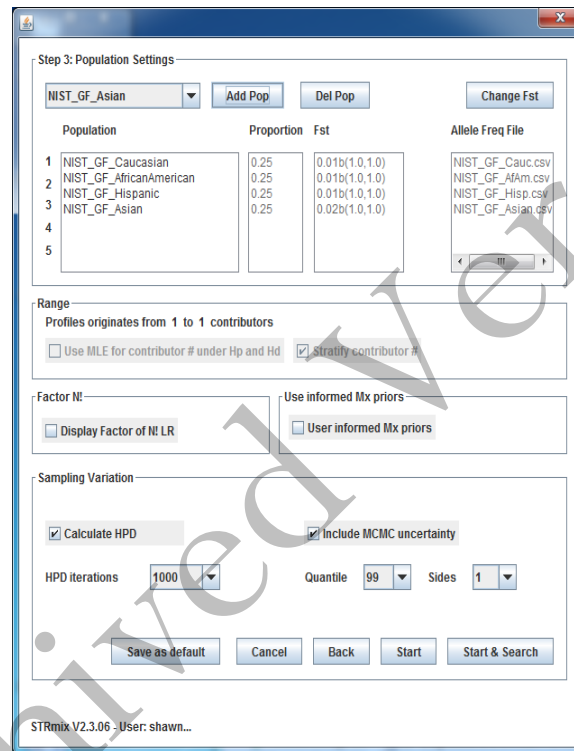

FIGURE 5
5. Select the appropriate population/s from the drop down menu. If reference samples have been added as unknowns, population groups for any likelihood ratio calculations can be added at this step by choosing Add Pop for each highlighted population of interest from the drop-down menu. Population settings are only required when reference samples have been selected in Step 2. If no reference samples are selected the settings in Step 3 are disabled (as in Figure 5).
9. The window in Figure 5 will open. Select the appropriate population/s from the drop down menu and choosing Add Pop. Select Start to start the calculation.